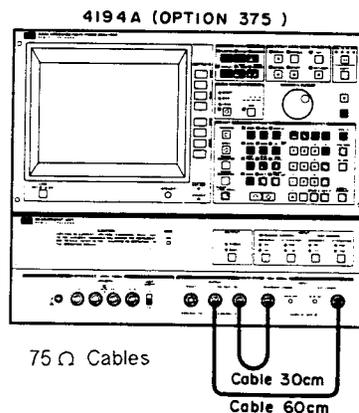

Figure 4-11. HP 11852A Insertion Loss Calibration Setup 1
2. Interconnect the OUTPUT and INPUT terminals using 75 Ω cables as shown in Figure 4-11.